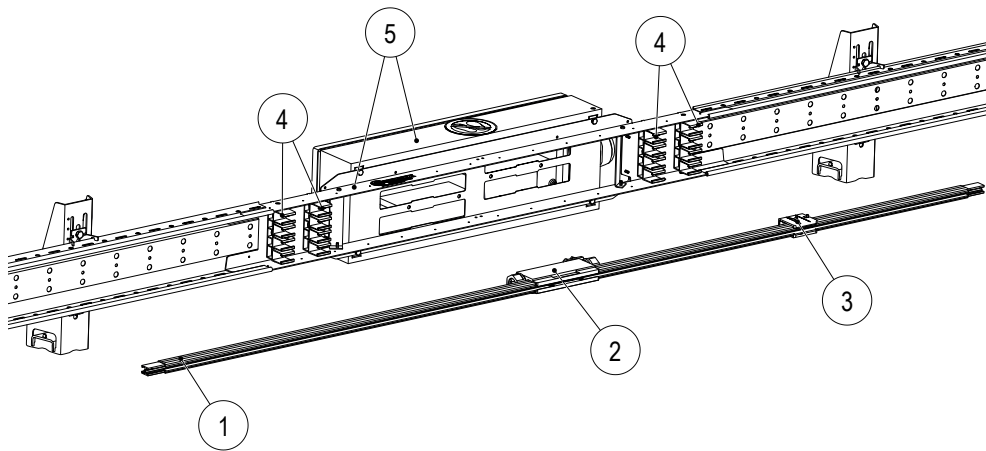
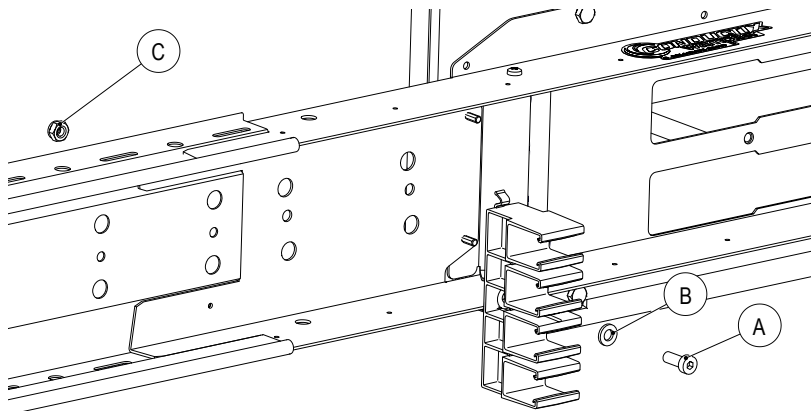
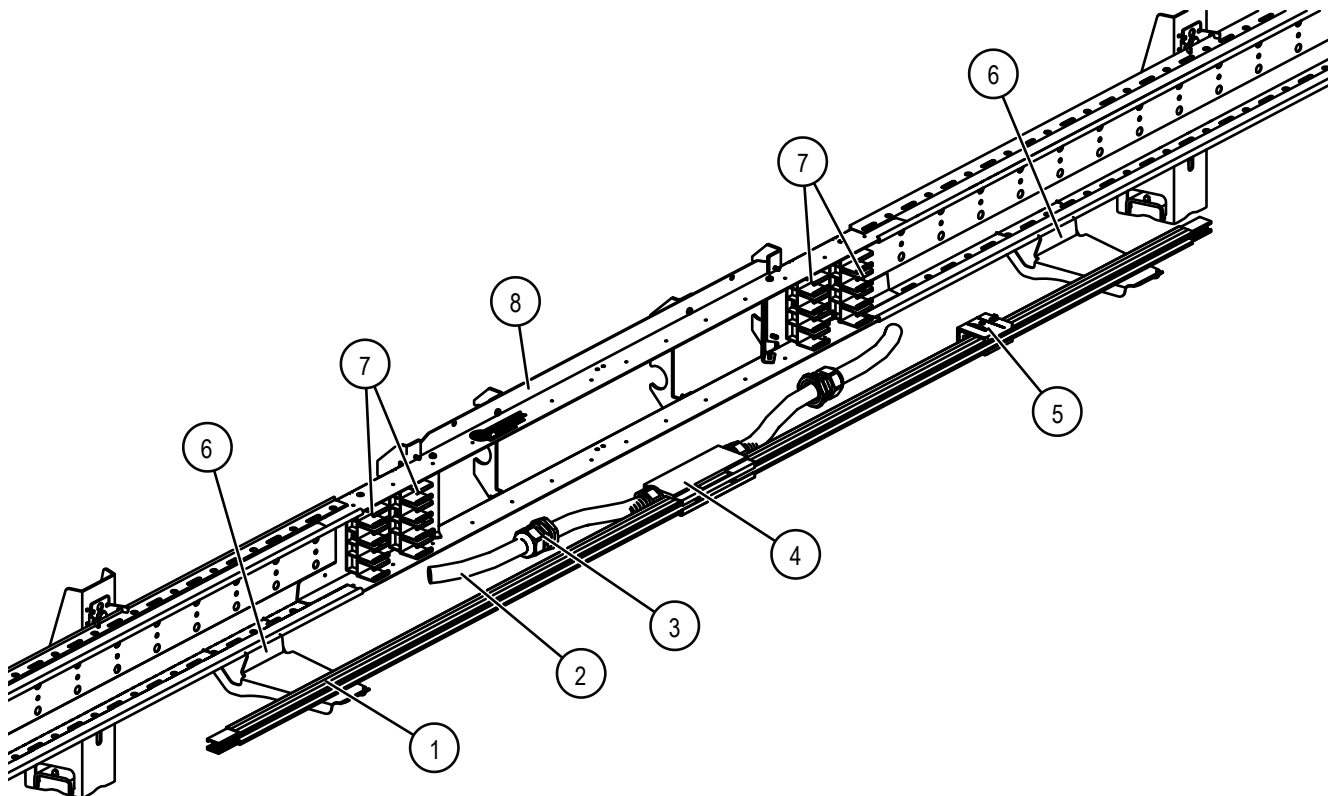

Fig. 30: Line feed option with terminal box
Fig. 31: Screw hanger clamp onto fastening frame
Fig. 47: Line feed option with connecting cables
The hanger clamps (4) for the preassembled anchor points (3) on the conductor rail with line feed (1) must be installed on the ProShell support profile on the installation site using the cylinder screw M6x16 (A), washer (B) and hexagon nut M6 (C) (see Fig. 31 and Fig. 30)!
The hanger clamps (7) for the preassembled anchor points (5) on the conductor rail with line feed (1) must be installed on the ProShell support profile at the installation site using the cylinder screw M6x16 (A), washer (B) and hexagon nut M6 (C) (see Fig. 31 and Fig. 47)!
2. Place the conductor rail with the installed line feed and anchor point (1) on the auxiliary consoles (6) in order to be able to connect the conductor rail (1) to the additional conductor rails on the right and left (see Fig. 47). For better handling when connecting, auxiliary consoles should also be hooked onto the ProShell support profile for the additional conductor rails (also see BAL0812-0001).